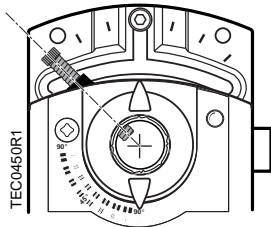

Figure 7. Set screw in shaft hole.
5. Tighten the set screw until the first thread can be seen in the shaft hole, Figure 7.